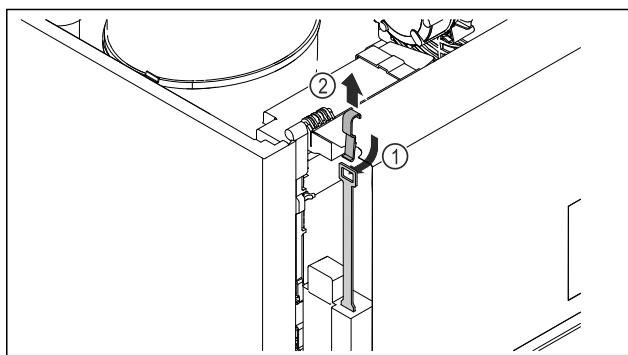

Fig. 244
► Push the emergency release key Fig. 244 (1) in from the top, hook it into the lock, and pull up Fig. 244 (2).